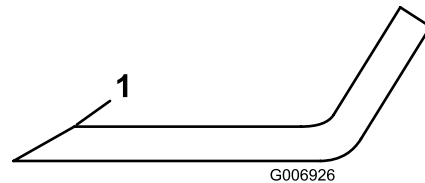

Figure 33
1. Use a file to sharpen the cutting edge at both ends of the blade (Figure 33). Maintain the original angle. The blade retains its balance if the same amount of material is removed from both cutting edges.